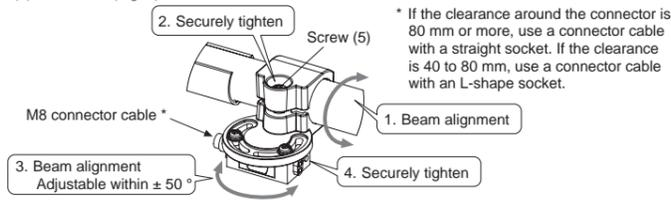

Fig. 5
- Connect the M8 connector cable to the Muting sensor and turn on the power. Then loosen the Screw (5) of the Muting sensor mounting bracket and perform beam alignment for the Muting sensor. The Cable cover can be removed. The Muting sensor can be adjusted ± 50 degree in the direction of rotation. After perform beam alignment, securely tighten the Screws (3) and Screws (5). The recommended torque to tighten the Screw (3) is Max. 0.53 N•m and the recommended torque to tighten the Screw (5) is 0.8 N•m. (Fig. 5)